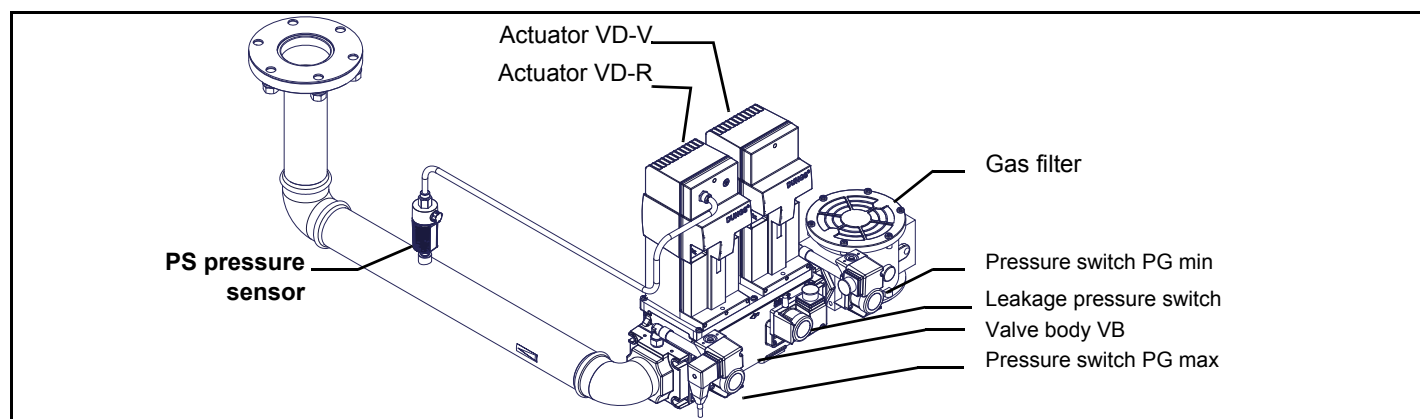

Fig. 4 Example of gas train MBE
1-b) in case of flanged joints: place a gasket (no. 1A..1E - Fig. 4) between the elements;
**ATTENTION:** once the gas train is mounted according to the diagram on Fig. 4, the gas proving test must be performed, according to the procedure set by the laws in force.